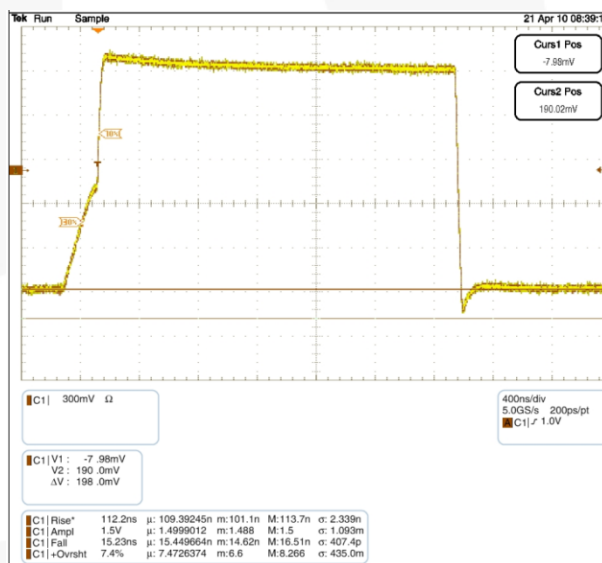

Figure 4. Waveform C: 600pF, Total R_{PU}: 2.2K Ω
C = the bus capacitance. If the FXMAR2104 is attached to the master [on the A port] and there is a slave on the B port, the Npassgates act as a low resistive short between the ports until either of the port's V_{CC}/2 thresholds are reached. After the RC time constant has reached the V_{CC}/2 threshold of either port, the port's edge detector triggers both dynamic drivers to drive their respective ports in the LOW-to-HIGH (LH) direction, accelerating the rising edge. The resulting rise time resembles the scope shot in Figure 4. Effectively, two distinct slew rates appear in rise time. The first slew rate (slower) is the RC time constant of the bus. The second slew rate (much faster) is the dynamic driver accelerating the edge.